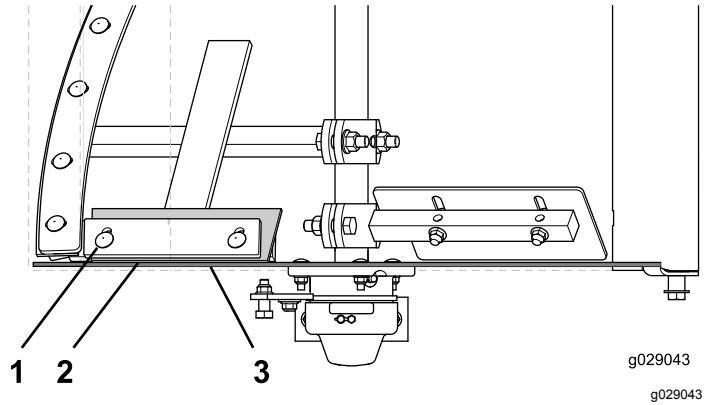

Figure 74
- Loosen the carriage bolts and flanged locknuts that secure the paddle blade and wiper to the fixed paddle. (Figure 74)